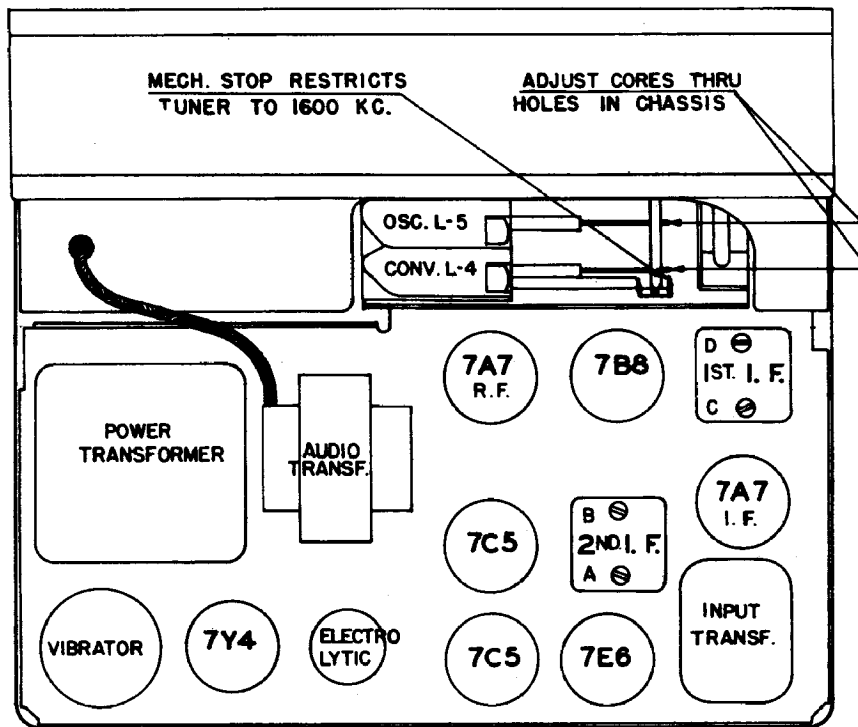

Fig. 9. Top View of Chassis
4. Adjust I.F. trimmers A, B, C and D (Fig. 9) in the order named for maximum output. Repeat the operation to assure accurate alignment.
10. Adjust oscillator core L5 (Figure 9) to scale at 1200 Kc.
11. Adjust antenna, R.F. and converter cores (Figures 9 and 10) for maximum output reading.